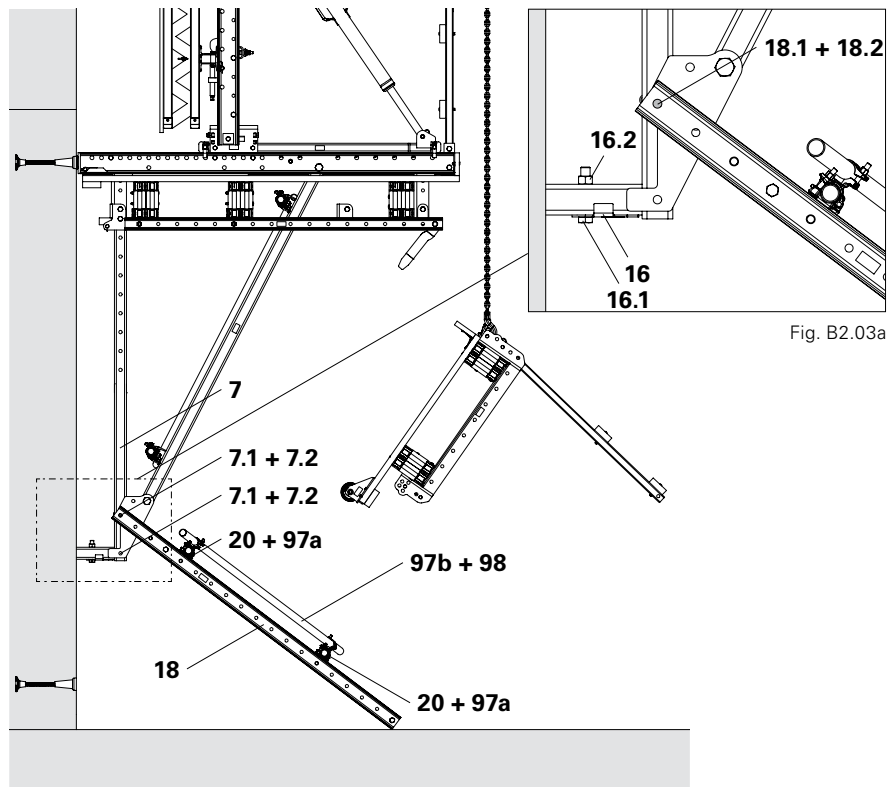

Fig. B2.03
6. Fix 2x Scaffold Tube Steel $\varnothing 48.3 \times 3.2$ (97a) respectively to the Scaffold Tube Connectors SCS 48 (20).
7. Diagonally fix Scaffold Tubes Steel $\varnothing 48.3 \times 3.2$ (97b) to the horizontal scaffold tubes (97a) using Swivel Couplings DK 48/48 (98) – (see Section B1.7). (Fig. B2.03)